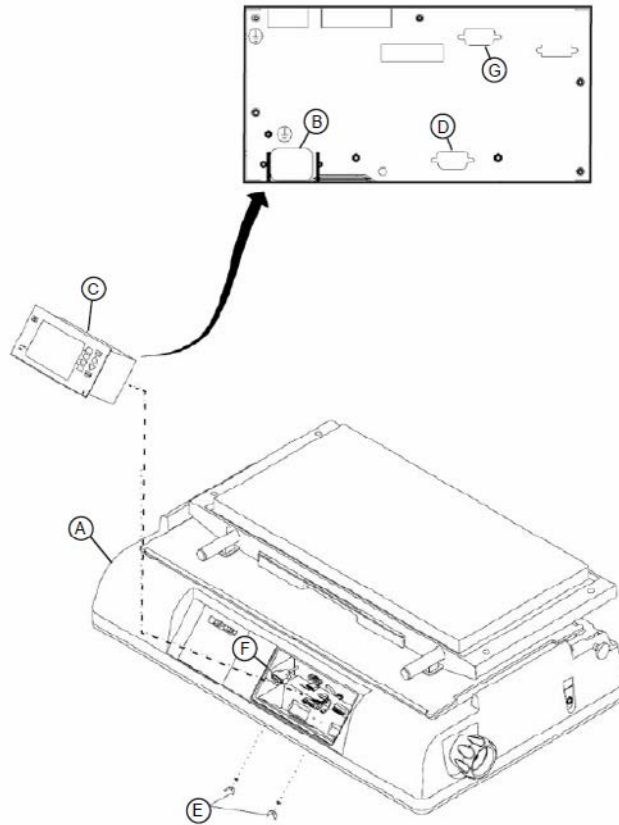

Fig. 59 Controller
- 18** From under the upper shell assembly (Fig. 59/A), perform the following:
- Disconnect the AC power cord from its connector (Fig. 59/B) on the back of the controller assembly (Fig. 59/C).
- If necessary, disconnect the cable attached to the RS-232 port (Fig. 59/D).
- Remove and retain the two wing nuts and flat washers (Fig. 59/E) located next to the AC power connector (Fig. 59/B) and the RS-232 port (Fig. 59/D).
- 19** Slide the controller assembly (Fig. 59/C) out from the upper shell assembly (Fig. 59/A) until its cable connectors are visible.
- 20** Disconnect the cables from the controller assembly (Fig. 59/C).
- 21** Remove the controller assembly (Fig. 59/C) from the upper shell assembly (Fig. 59/A).